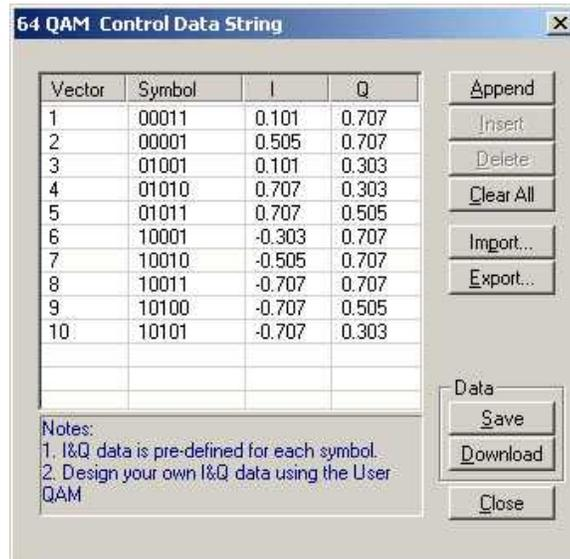

Figure 3-79, 64QAM Data Entry Table Example
**QAM Data** – provides access to the QAM data symbols. By default the table is empty so the symbols must be loaded into the table before the (n)QAM function can be used. For testing and/or demonstration purpose, a default table is available to download from the front panel however, this table must be converted for different applications. An example of the 64QAM data entry table is shown in figure 3-79.